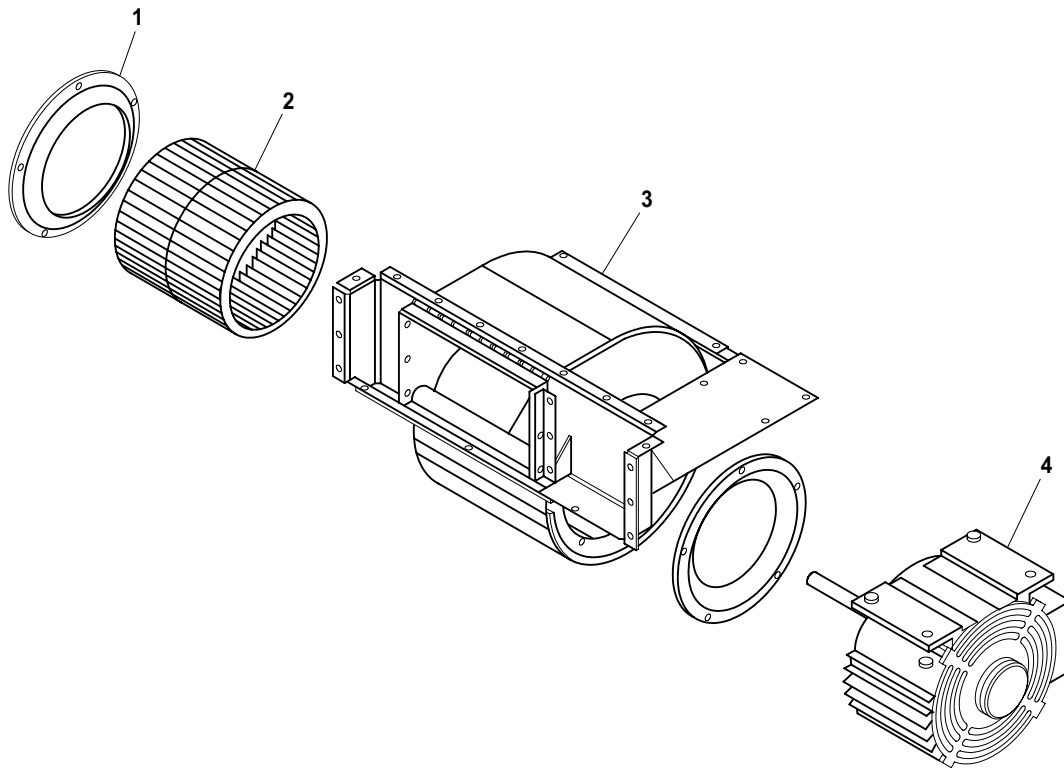

Figure 2. CONDENSER BLOWER AND MOTOR ASSEMBLY.
4. Remove screws from inlet ring (1) on blower housing. See Figure 2.
5. Loosen setscrews on impeller (2) shaft collar. See Figure 2.
7. Remove bolts, nuts and washer securing motor to mounting plate (4). See Figure 2.